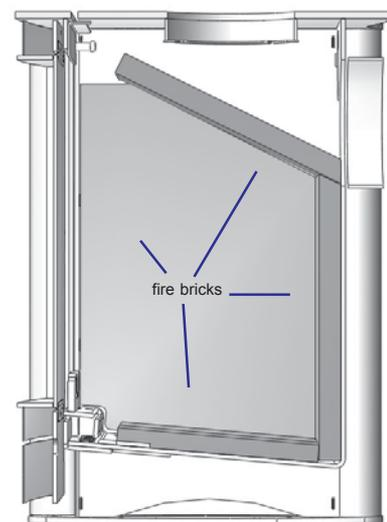

figure 1
Before lighting check the baffle and other internal components are in position **figure 1** and that all packaging has been removed.
- Try moving the baffle towards the front of the stove (**figure 1**) so that the flue gasses exit at the rear of the stove.